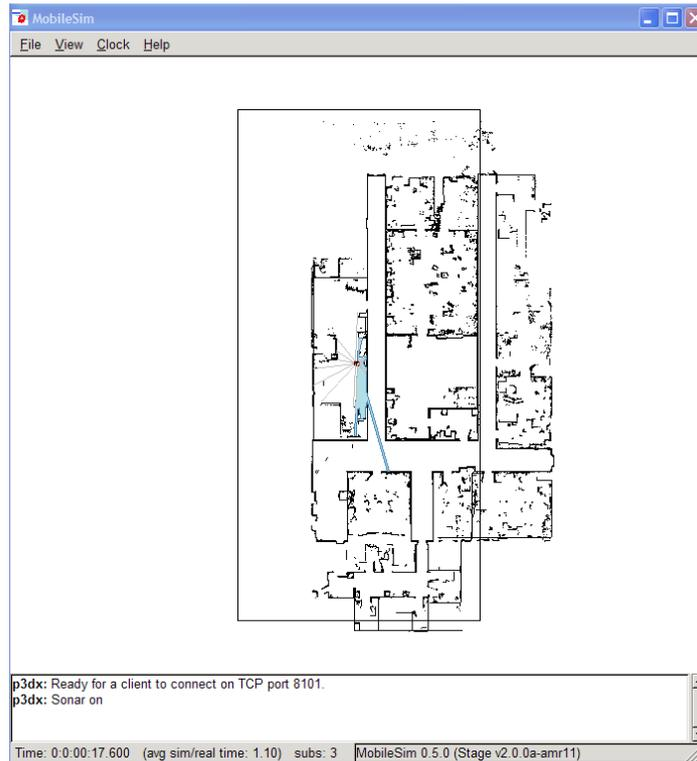

Figure 6: Screenshot of the simulator with the robot in starting position. The map, the laser range and sonar beams are also displayed.
- Test algorithm in simulation with existing MobileSim simulator, see figure 6.
In this example the map is considered unknown, the complete map known to the robot is obstacle free. The actual map is composed of obstacles shown in figure 5. Under this assumption an initial path from start to goal is calculated, shown in red in figure 6.